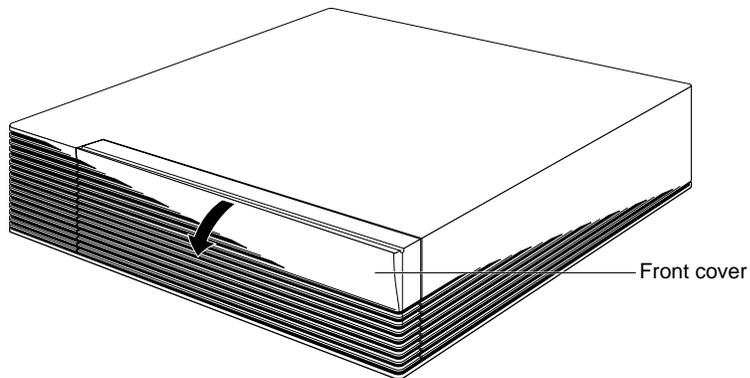

Figure 2-1 Removing the Front Cover
- Open the front cover by snapping it away from the top edge of the chassis and tipping it down, as shown in Figure 2-1.